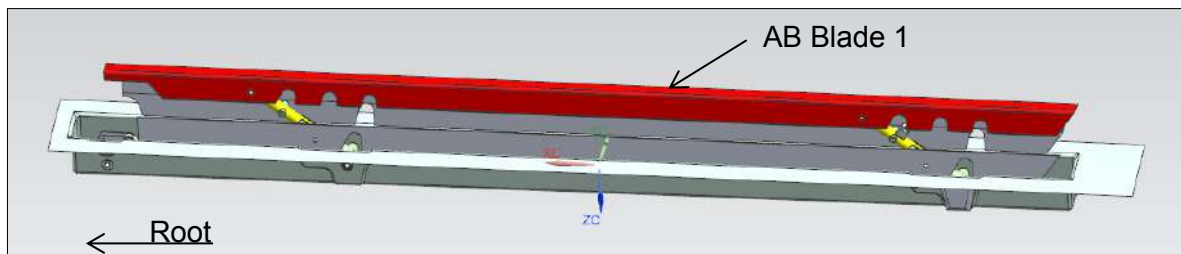

Figure 27-25: AB Blade 1 installation position
10. Reinstall airbrake blade 1 as in Figure 27-25 using the lock pins. Do not lock.